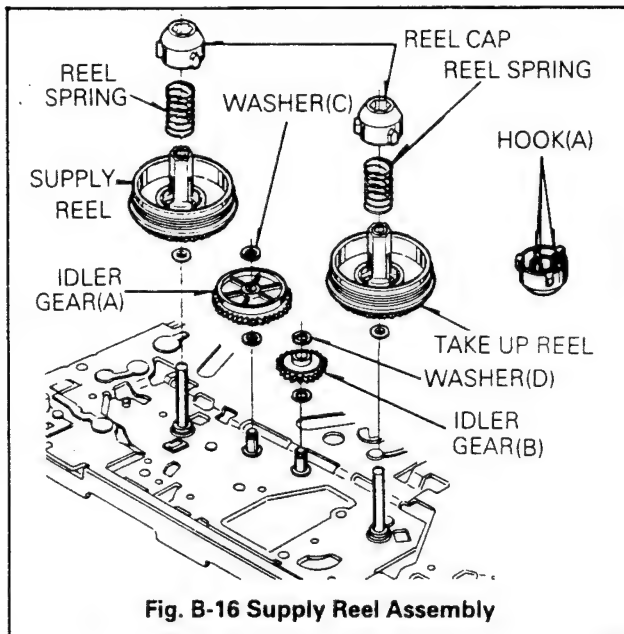

Fig. B-16 Supply Reel Assembly
16. Supply Reel Assembly(Fig. B-16)
17. Take Up Reel Assembly(Fig. B-16)
18. Idler Gear(A), (B)(Fig. B-16)